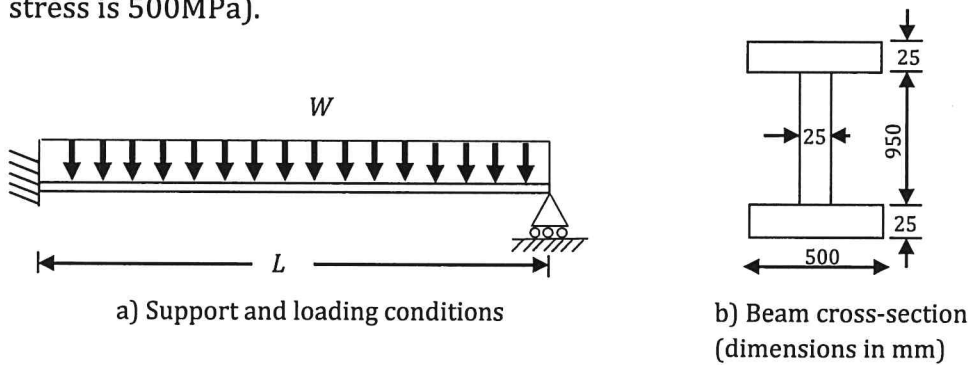

Figure Q1
- c) A steel beam shown in Figure Q1 is to be used in the construction of a bridge of length,  $L = 4\text{m}$ .